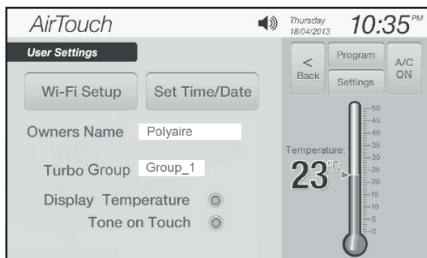
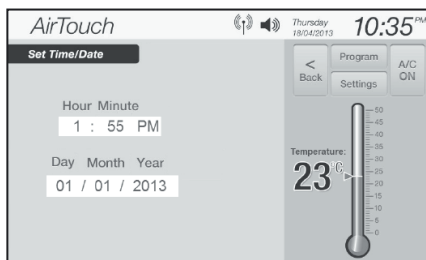
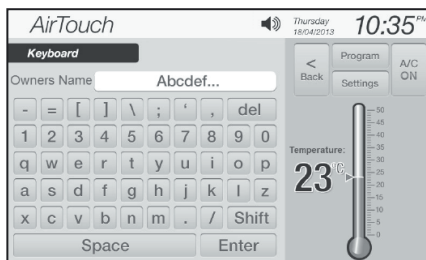
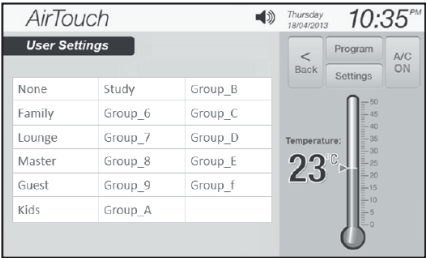

Figure 15.
Figure 28.
Figure 30.
Figure 31.
- Touch **User** to enter ‘user settings’ screen(Figure 15)
- Touch **Set Time/Date** on the 'User Settings' screen (Figure 15) to enter the time/date setup screen (Figure 28).
Go to 'User Settings' screen (Figure 15). Touch 'Owners Name' to change the owner's name by using the keyboard shown on the screen (Figure 30). Touch **Shift** to switch between lower case and upper case and touch **Enter** to confirm the name or touch  to cancel the change.
Touch the 'Turbo Group' field on the 'User Settings' screen (Figure 15), to display the list of available group name (Figure 31). Choose the desired group name as the turbo group. The grey turbo indicator will appear on the group button after it's chosen as Turbo group.